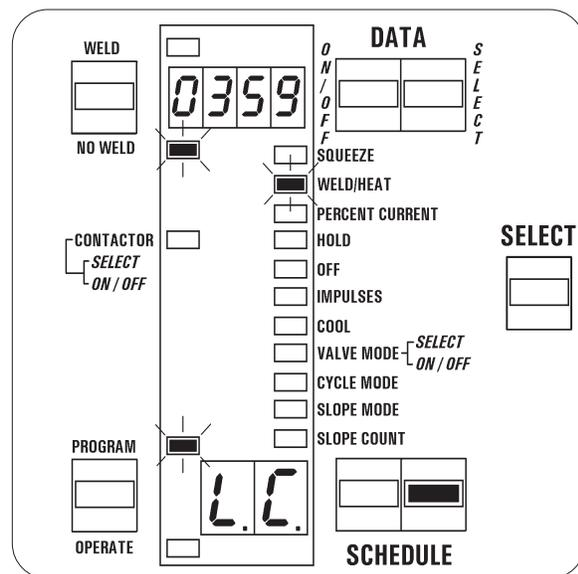

Figure 7-5. Program LAST COUNT
5. Press the SCHEDULE push buttons to find **L.C.** in the SCHEDULE display, as shown in Figure 7-5.
6. Program the desired LAST COUNT for this stepper; e.g., for stepper **0**, LAST COUNT may be any number from **0000** to **9999**, as shown in Figure 7-5. In fact, this value will be first count at beginning of the weld sequence. This value will be reset or reprogrammed after resetting the stepper.